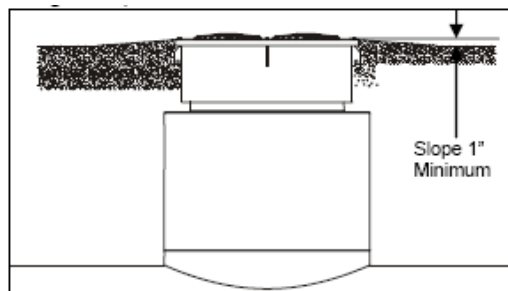

Figure 7
21. It is required that the paved contours around POMEKO covers be adequately sloped to direct water flow away from the cover, and directing water runoff from adjacent areas away from POMEKO covers. Minimum slope is 1" from grade to the top of the ring of the manhole. Note that this slope must be taken into consideration when cutting riser lengths in earlier steps. (See Figure 7.)